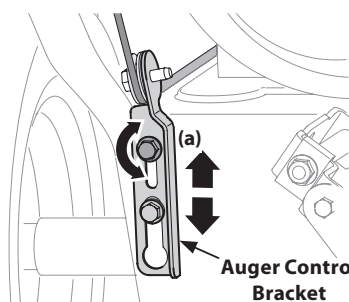

Figure 2-43
- Allow auger to remain engaged for approximately ten (10) seconds before releasing auger control lever. Repeat this several times.
- To readjust the auger control cable, loosen upper hex screw (a) unit auger control bracket. See Figure 2-43.
- Position bracket upward to provide more slack (or downward to increase cable tension. See Figure 2-43.